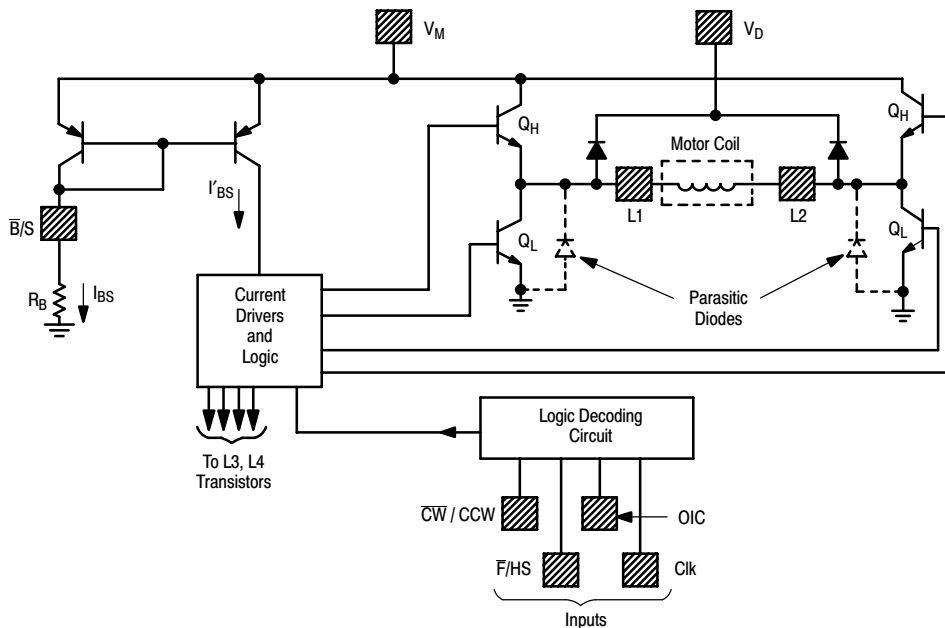
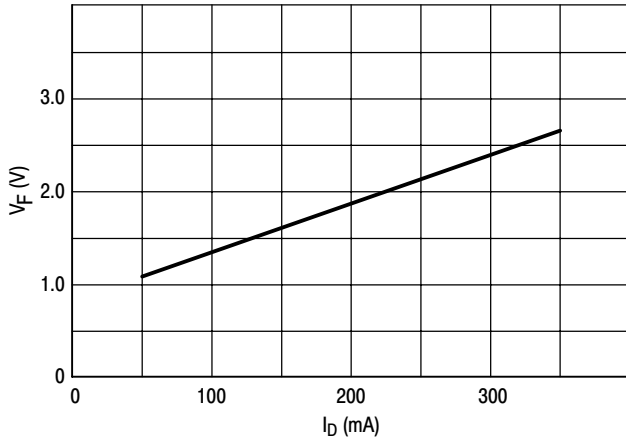
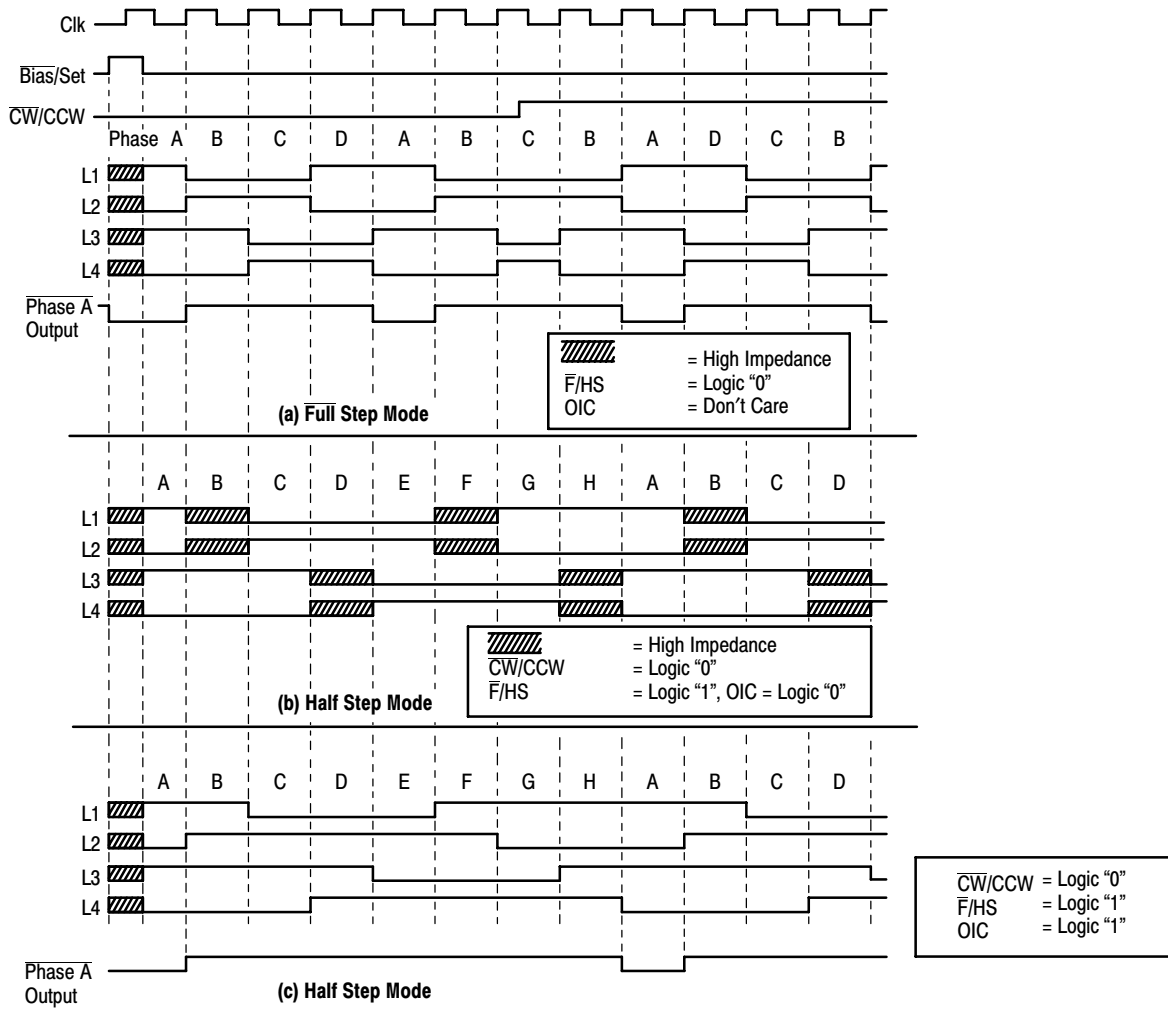
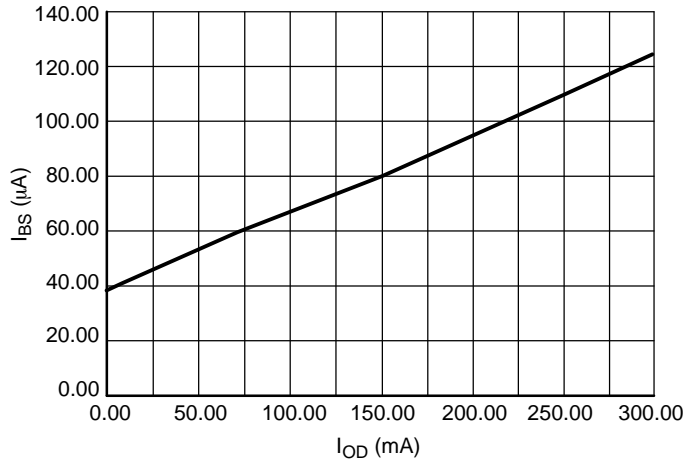

Figure 5. Output Stages
Figure 6. Clamp Diode Characteristics
Figure 7. Output Sequence
Figure 11. Bias/Set Current – Output Drive Current
The outputs (L1–L4) are high current outputs (see Figure 5), which when connected to a two-phase motor, provide two full-bridge configurations (L3 and L4 are not shown in Figure 5). The polarities applied to the motor coils depend on which transistor ( $Q_H$  or  $Q_L$ ) of each output is on, which in turn depends on the inputs and the decoding circuitry.
are to be in a high impedance state, both transistors ( $Q_H$  and  $Q_L$  of Figure 5) of each output are off.
This pin allows for provision of a current path for the motor coil current during switching, in order to suppress back-EMF voltage spikes. VD is normally connected to VM (Pin 16) through a diode (zener or regular), a resistor, or directly. The peaks instantaneous voltage at the outputs must not exceed VM by more than 6.0 V. The voltage drop across the internal clamping diodes must be included in this portion of the design (see Figure 6). Note the parasitic diodes (Figure 5) across each QL of each output provide for a complete circuit path for the switched current.
When this input is at a Logic “0” (< 0.8 V), the outputs change a full step with each clock cycle, with the sequence direction depending on the  $\overline{CW}/CCW$  input. There are four steps ( $\overline{\text{Phase A}}$ ,  $\overline{\text{B}}$ ,  $\overline{\text{C}}$ ,  $\overline{\text{D}}$ ) for each complete cycle of the sequencing logic. Current flows through both motor coils during each step, as shown in Figure 7.
When taken to a Logic “1” (>2.0 V), the outputs change a half step with each clock cycle, with the sequence direction depending on the  $\overline{CW}/CCW$  input. Eight steps ( $\overline{\text{Phase A}}$  to  $\overline{\text{H}}$ ) result for each complete cycle of the sequencing logic.  $\overline{\text{Phase A}}$ ,  $\overline{\text{C}}$ ,  $\overline{\text{E}}$  and  $\overline{\text{G}}$  correspond (in polarity) to  $\overline{\text{Phase A}}$ ,  $\overline{\text{B}}$ ,  $\overline{\text{C}}$ , and  $\overline{\text{D}}$ , respectively, of the full step sequence.  $\overline{\text{Phase B}}$ ,  $\overline{\text{D}}$ ,  $\overline{\text{F}}$  and  $\overline{\text{H}}$  provide current to one motor coil, while de-energizing the other coil. The condition of the outputs of the de-energized coil depends on the OIC input, see Figure 7 timing diagram.
The output impedance control input determines the output impedance to the de-energized coil when operating in the half-step mode. When the outputs are in  $\overline{\text{Phase B}}$ ,  $\overline{\text{D}}$ ,  $\overline{\text{F}}$  or  $\overline{\text{H}}$  (Figure 7) and this input is at a Logic “0” (<0.8 V), the two outputs to the de-energized coil are in a high impedance condition – QL and QH of both outputs (Figure 5) are off. When this input is at a Logic “1” (>2.0 V), a low impedance output is provided to the de-energized coil as both outputs have QH on (QL off). To complete the low impedance path requires connecting VD to VM as described elsewhere in this data sheet.
a) The maximum output sink current is determined by the base drive current supplied to the lower transistors (QLs of Figure 5) of each output, which in turn, is a function of IBS. The appropriate value of IBS can be approximated using Figure 11.
For example, assume an application where  $V_M = 12\text{ V}$ , the motor requires 200 mA/coil, operating at room temperature with no heatsink on the IC. From Figure 11,  $I_{BS}$  is determined to be 95  $\mu\text{A}$ .